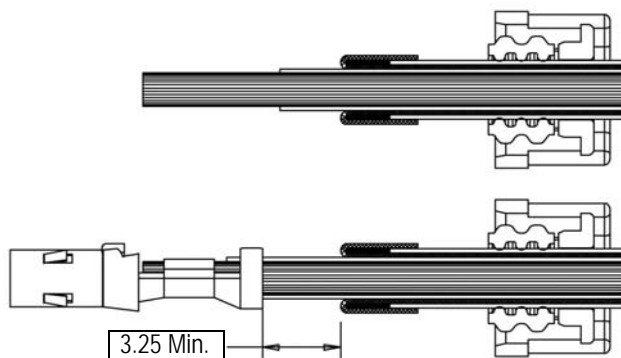

Figure 7
6. Insert the socket terminal assembly 1703420-2 over the exposed conductor strands as shown in Figure 7.
**i** *NOTE* There must be 3.25 mm minimum clearance between the terminal and ferrule/shield braid as shown in Figure 7.